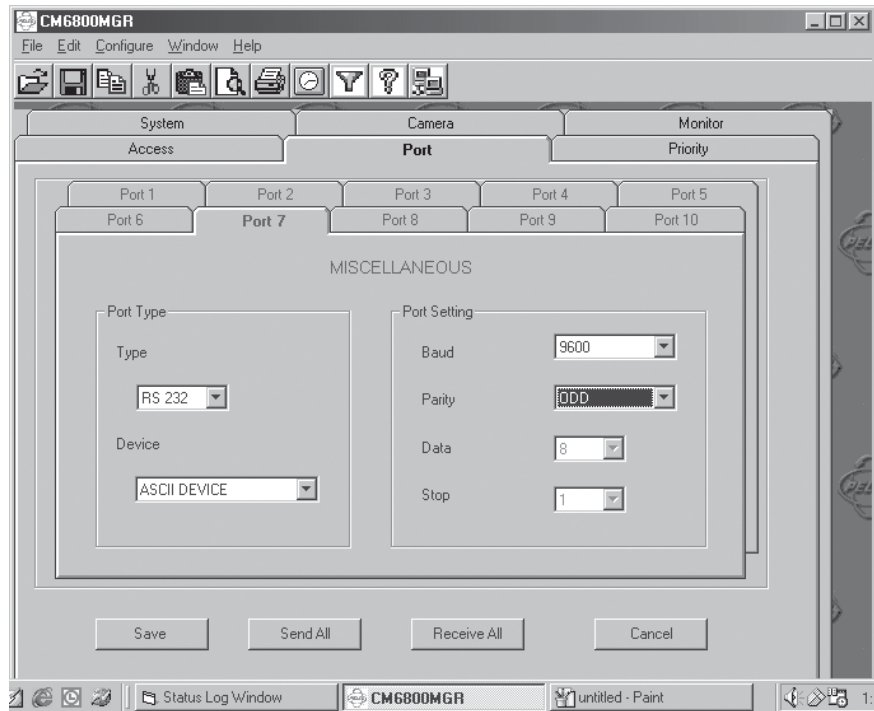

Figure 57. Manager Screen
- Ports 7 and 8 can be set to ASCII and RS-232 by using the CM6800 manager program (refer to Figure 57) or by using a CM6800 menu (refer to Figure 58).